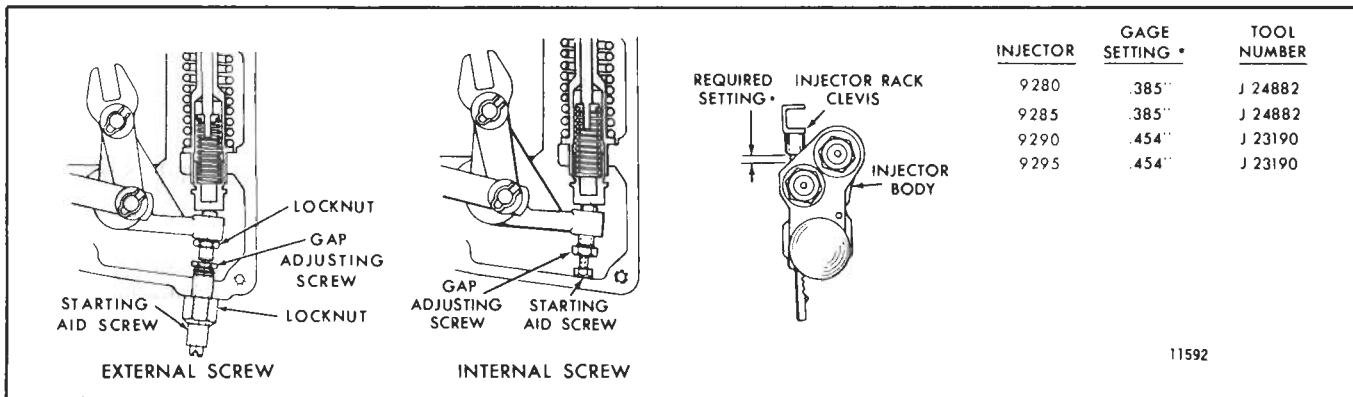

Fig. 7 - Starting Aid Screw Adjustment
- b. Adjust the starting aid screw to obtain the required setting between the shoulder on the injector rack clevis and the injector body (Fig. 7). Select the proper gage and measure the setting at any convenient cylinder. When the starting aid screw is properly adjusted, the gage should have a small clearance of $1/64"$ (.397 mm) in the space along the injector rack shaft between the rack clevis and the injector body.
- b. Hold the gap adjusting screw, to keep it from turning, and adjust the starting aid screw to obtain the required setting between the shoulder on the injector rack clevis and the injector body (Fig. 7). The setting is measured at the No. 3R injector rack clevis.